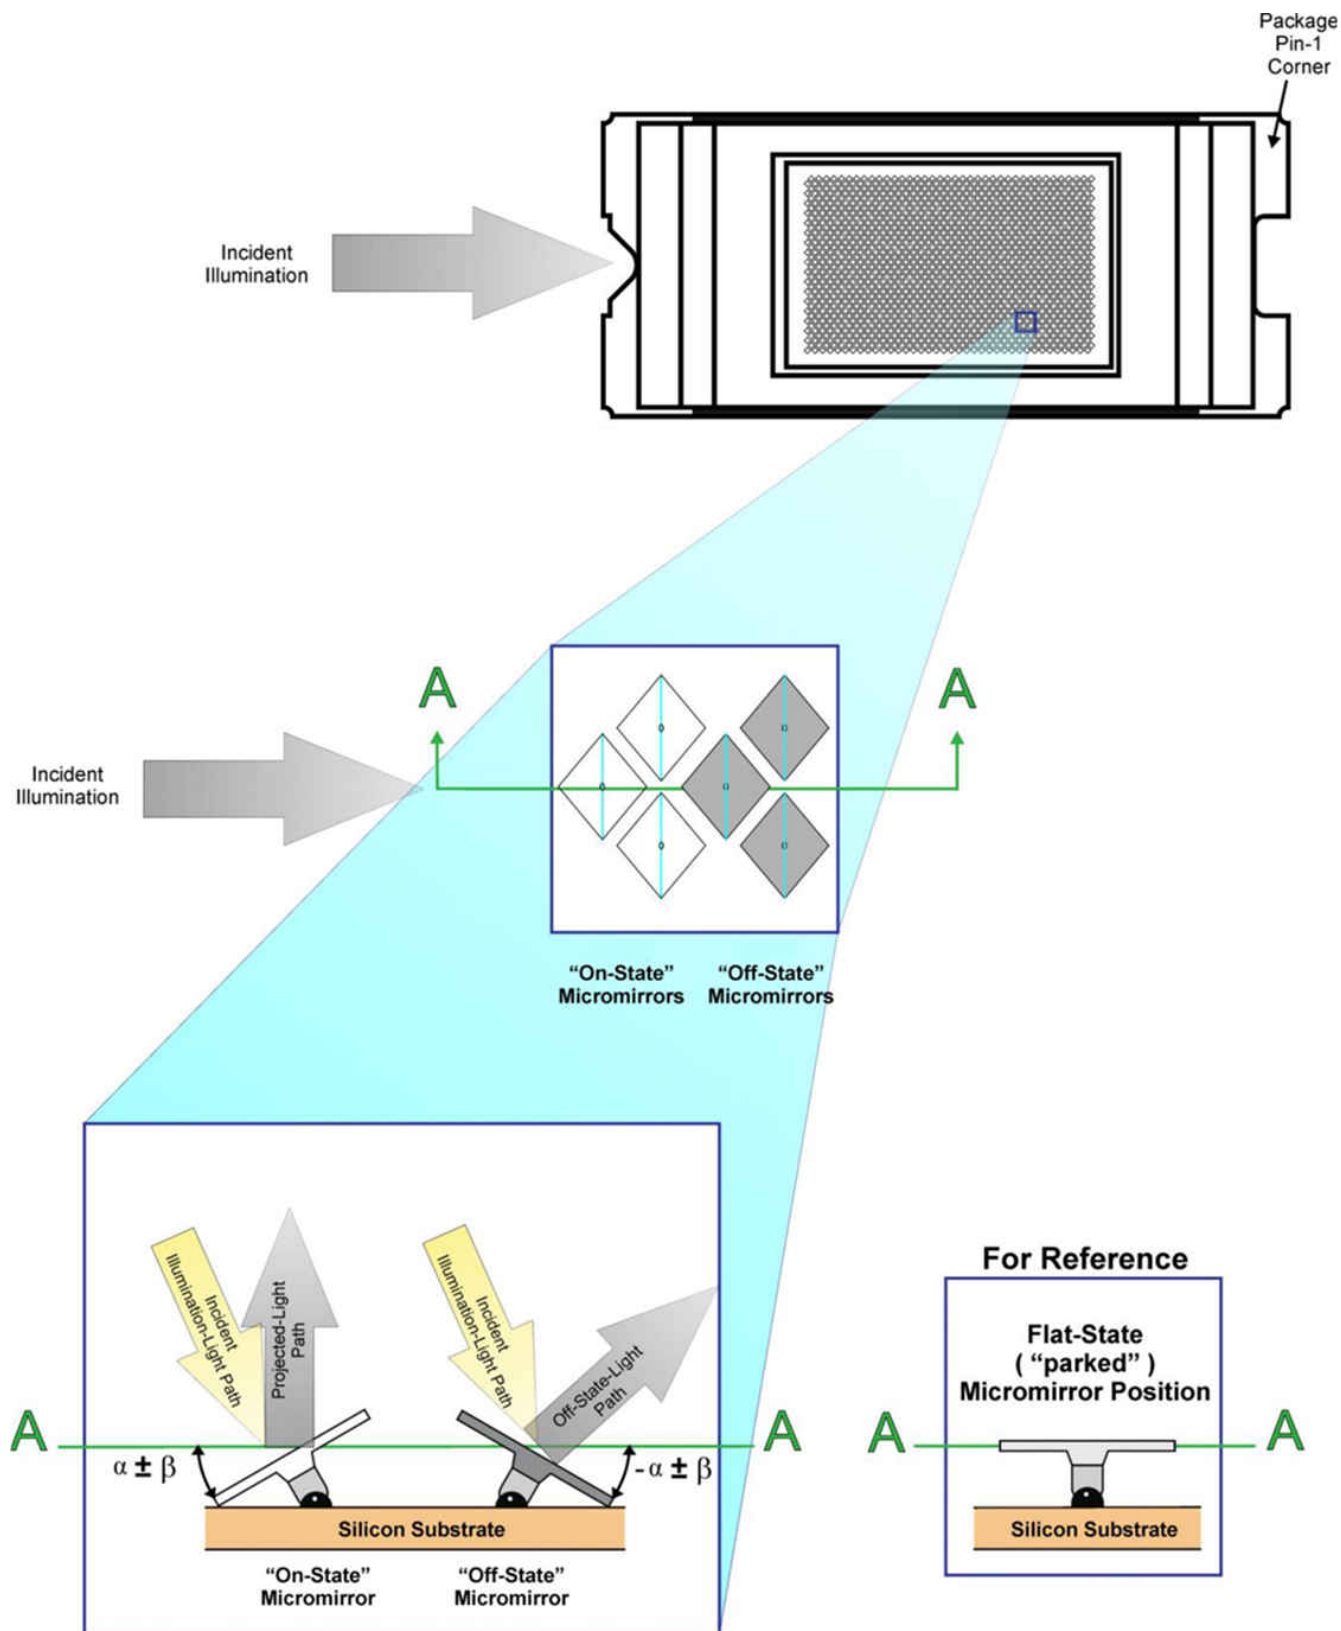

图 8-2. Micromirror Landed Positions and Light Paths
- (1) Measured relative to the plane formed by the overall micromirror array.
- (2) Micromirror crossover time is primarily a function of the natural response time of the micromirrors.
- (3) *Parking* the micromirror array returns all of the micromirrors to a relatively flat (0°) state (as measured relative to the plane formed by the overall micromirror array).
- (4) When the micromirror array is *parked*, the tilt angle of each individual micromirror is uncontrolled.
- (5) Additional variation exists between the micromirror array and the package datums.
- (6) When the micromirror array is *landed*, the tilt angle of each individual micromirror is dictated by the binary contents of the CMOS memory cell associated with each individual micromirror. A binary value of 1 results in a micromirror *landing* in an nominal angular position of +12°. A binary value of 0 results in a micromirror *landing* in an nominal angular position of –12°.
- (7) Represents the *landed* tilt angle variation relative to the nominal *landed* tilt angle
- (8) Represents the variation that can occur between any two individual micromirrors, located on the same device or located on different devices.
- (9) For some applications, it is critical to account for the micromirror tilt angle variation in the overall system optical design. With some system optical designs, the micromirror tilt angle variation within a device may result in perceivable non-uniformities in the light field reflected from the micromirror array. With some system optical designs, the micromirror tilt angle variation between devices may result in colorimetry variations or system contrast variations.
- (10) See 图 8-2.
- (11) Performance as measured at the start of life.
- (12) Measured relative to the package datums B and C, shown in the Package Mechanical Data section in # 13.
- (13) The nominal DMD total optical efficiency results from the following four components:
- (14) The DMD diffraction efficiency and total optical efficiency observed in a specific application depends on numerous application-specific design variables, such as:
Each micromirror is switchable between two discrete angular positions: -12° and 12° . The angular positions α and β are measured relative to a 0° flat reference when the mirrors are parked in their inactive state, parallel to the array plane (see 图 8-2). The parked position is not a latched position. Individual micromirror angular positions are relatively flat, but do vary. The tilt direction is perpendicular to the hinge-axis. The on-state landed position is directed toward the left side of the package (see 图 8-2).